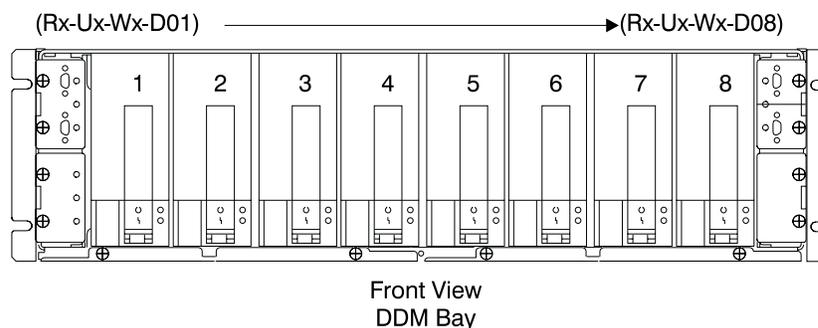

Figure 1. Disk Drive Module Locations in a DDM bay (S0077061)
- Use Figure 1 to determine the position of the disk drive modules in a DDM bay.